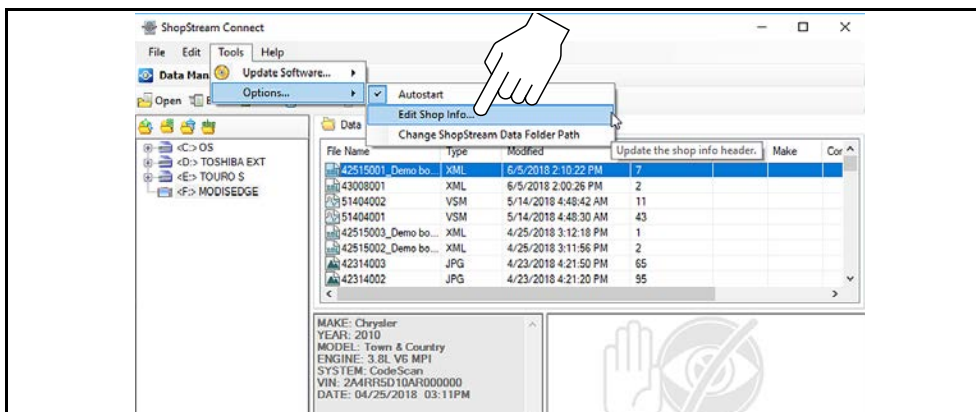

Figure 12-8
1. From ShopStream Connect, select **Tools > Options > Edit Shop Info** (Figure 12-8).